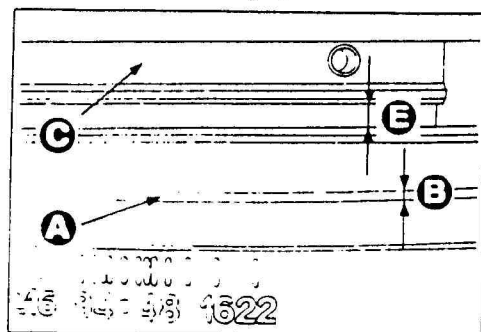

Fig.2
1. Turn clockwise the intermediate helicoid (A) up till its maximum, and turn back counterclockwise a little (about a half turn). Fit it to the position that the clearance (B) becomes about 0.3 mm. (0.5 mm For 150 mm LENS) (See Fig. 2.)